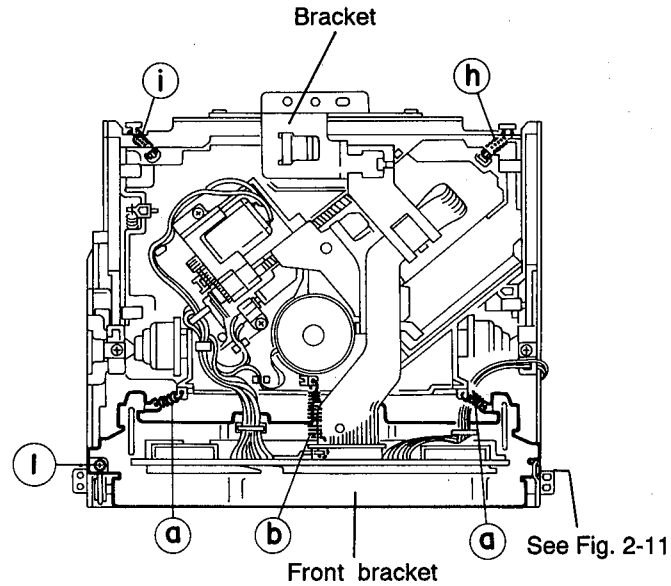
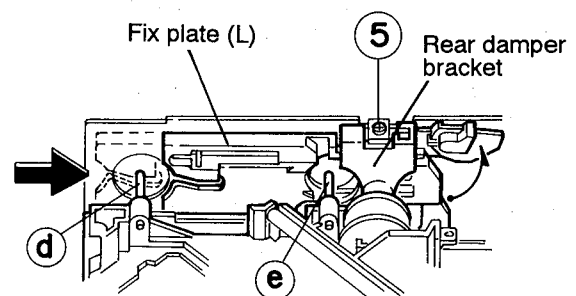

Fig. 2-10
Fig. 2-17
5. Remove the three springs ① and ② from behind the CD mechanism assembly (See Fig. 2-10).
2. While shifting the fix plates on the right and left sides respectively to the arrow direction, lower the entire CD mechanism. When the shafts (㉔, ㉕, ㉖ and ㉗) on both the right and left sides have been set free as shown in Figs. 2-17 and 2-18, then the assembly can be removed easily. Remove the two screws ⑤ retaining the rear damper bracket to make it easier to remove the damper from the rear damper bracket (See Figs. 2-10, 2-17 and 2-18).
3. Remove the two springs ㉘ and ㉙ as shown in Fig. 2-10,16.